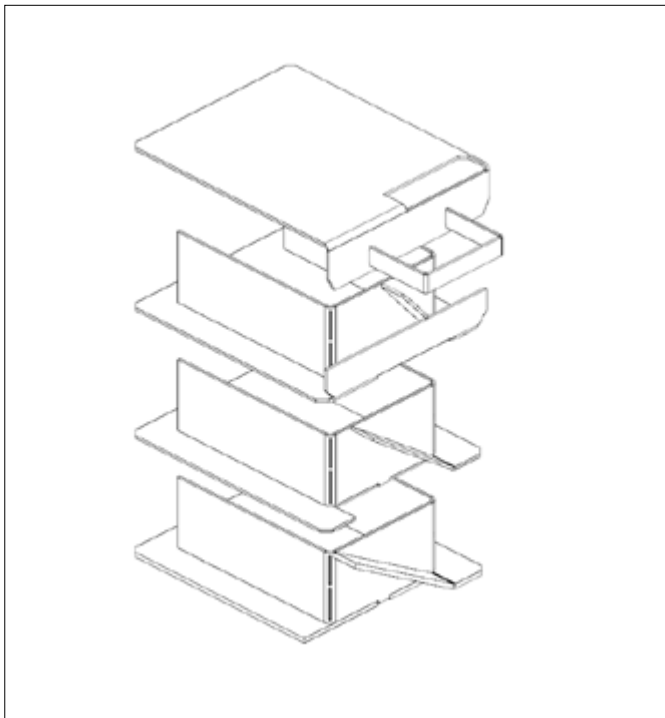
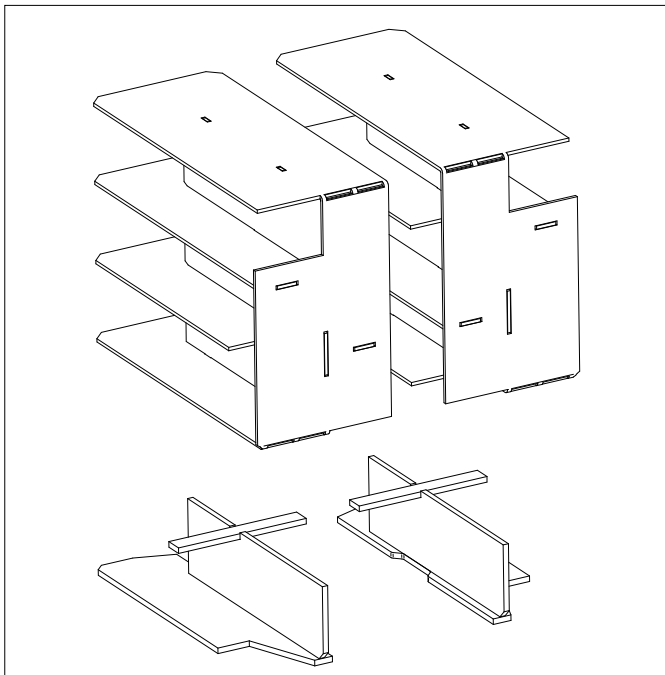
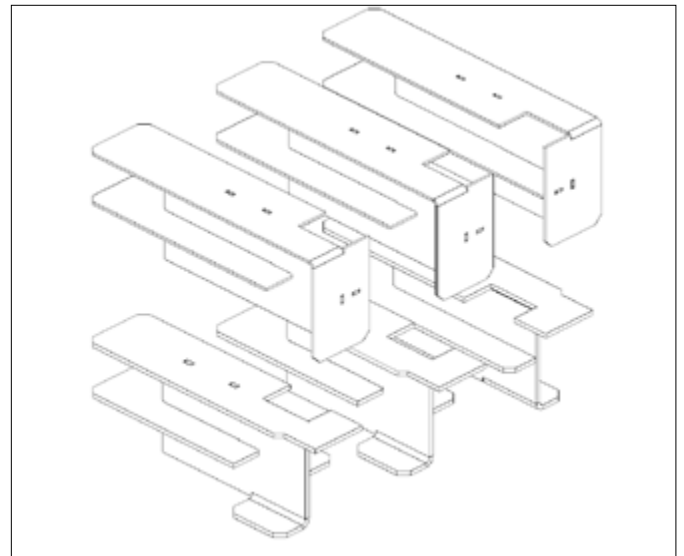
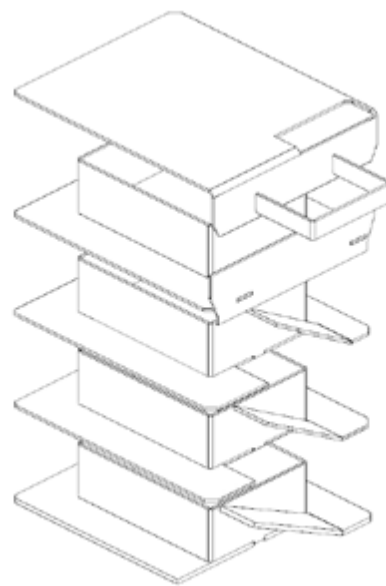

Figure 11-1: Baffles in Vortex Pro Combi 21
Figure 11-2: Baffles in Vortex Pro Combi 26
Figure 11-3: Baffles in Vortex Pro Combi 36
Figure 11-4: Baffles in Vortex Pro Combi XS 26
2. Remove the baffles as shown in Figure 11-1, Figure 11-2, Figure 11-3 and Figure 11-4.
6. Replace the baffles, ensuring they are correctly fitted. Refer to Figures 11-1 to 11-4, as appropriate.